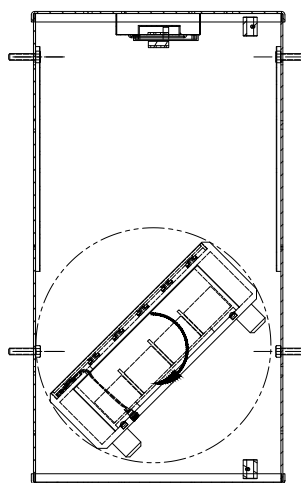

FIGURE 8
- a. Vertically position winder drawer base into safe, rotate horizontally (**Fig 8**). Plug power adapter plug into bottom of winder drawer base. Position drawer flush against back wall of safe, centered so that drawer, when open, clears both sides of door opening.